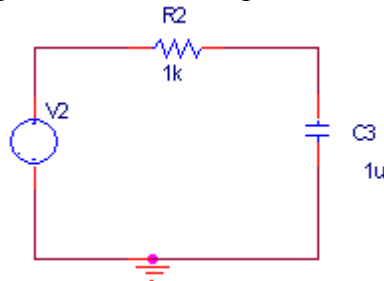
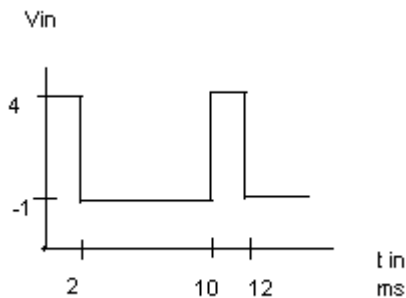

Figure 4.3 Simple RC circuit.
Figure 4.4 Input voltage for circuit from Figure 4.3
Consider the RC circuit in Figure 4.3 with the input waveform given in Figure 4.4.
- 3) Each parameter must be set individually for this part to work. Double click on the part to get to the “edit properties” tool box. Here t_r and t_f represent the rise and fall time, respectively – i.e. the time it takes to rise to its peak (t_r) and to fall again (t_f). For the present simulation, set these parameters to 1ns. The parameter t_d is the delay time and it should be set to zero as it represents the delay before the periodic part of the waveform. The value of PW is set to 2ms as it represents the time during which the input voltage stays high. The PER (period) is 10 ms in this case (see Figure 4.4). V1 and V2 are set to -1v and 4V respectively. Click on “apply” and then “x” out this screen.